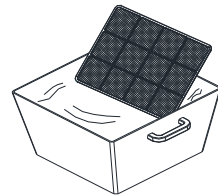

Fig.5
2. Let dust off by a vacuum cleaner or brush it gently. If filter is too dusty, clean it with warm water (fig.5)